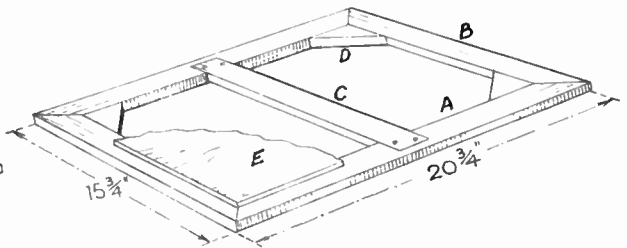

Fig. 3—The main base
There is a main base made up of four rails, two (A) and two (B), which are to be mitred at the ends as seen in Fig. 3. The lengths of these rails are given. Should it be found necessary to stiffen the base at all, according to the kind of exhibits that will be put into the case, then a cross rail (D) may be added, halved into the side rails, and glued and screwed in. The frame may be further stiffened by adding angle blocks glued into the interior corners as shown.